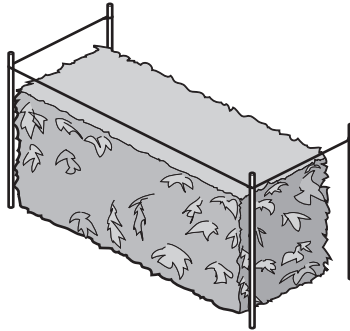

Fig. 14
- Use a string to obtain a level hedge. Stretch a string along the top of the hedge at the desired height and trim the hedge just above the level of the string (Fig. 14).